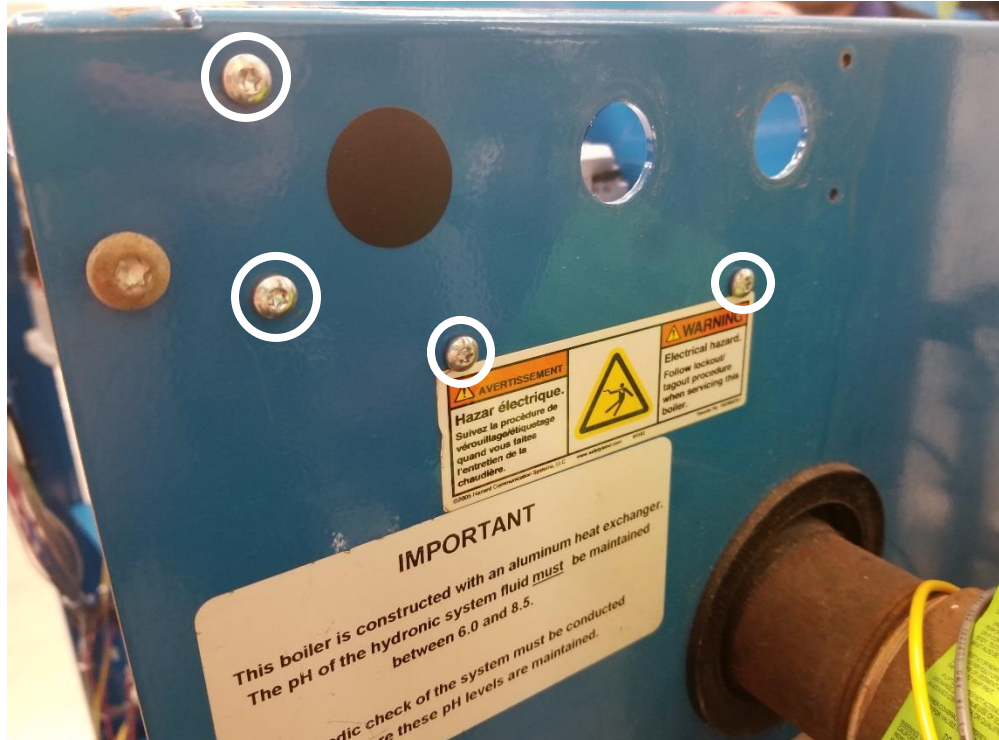

Figure 16
22. Secure right-side terminal box by lining up right four screw holes and screw into place shown in figure 16.